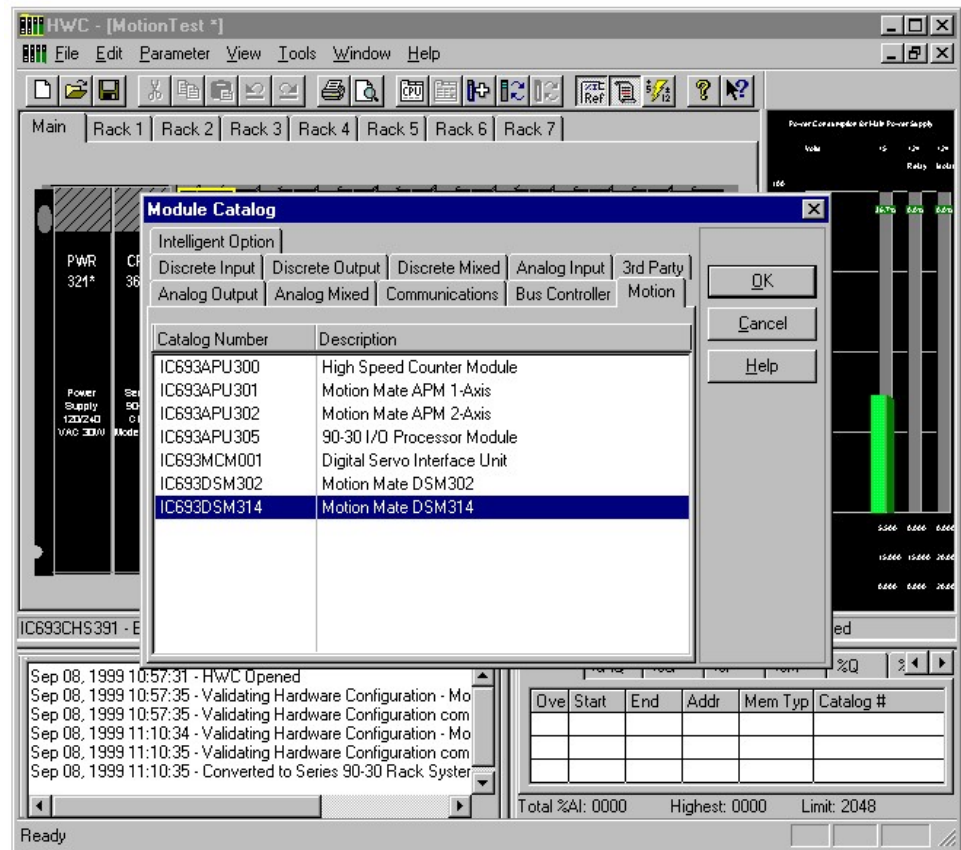

Figure 16-31. Hardware Configuration 90-30 rack DSM314 Selection
- You can either (1) double click the desired slot, in this case slot number 2, or (2) right-click the desired slot (number 2) and then select Add Module.
- Select the DSM314 module from the list. The resulting display is shown in Figure 16-31.